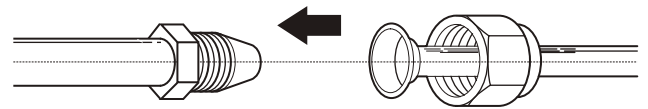

Fig. 2.12
3. Make sure it is facing in the right direction, because you cannot remove the nut or change its direction once the pipe has been flared. See **Fig. 2.12**.